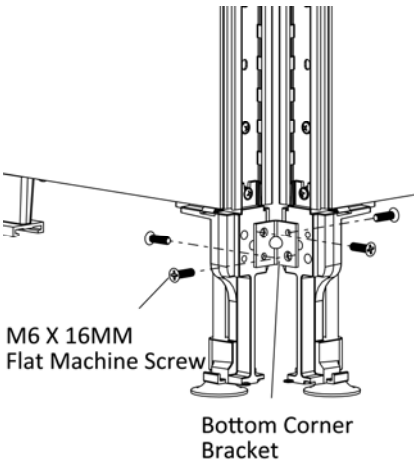

Figure 3
- Securely fasten bottom corner bracket to panel legs with four M6 X 16MM Flat Machine Screws, (Figure 3).